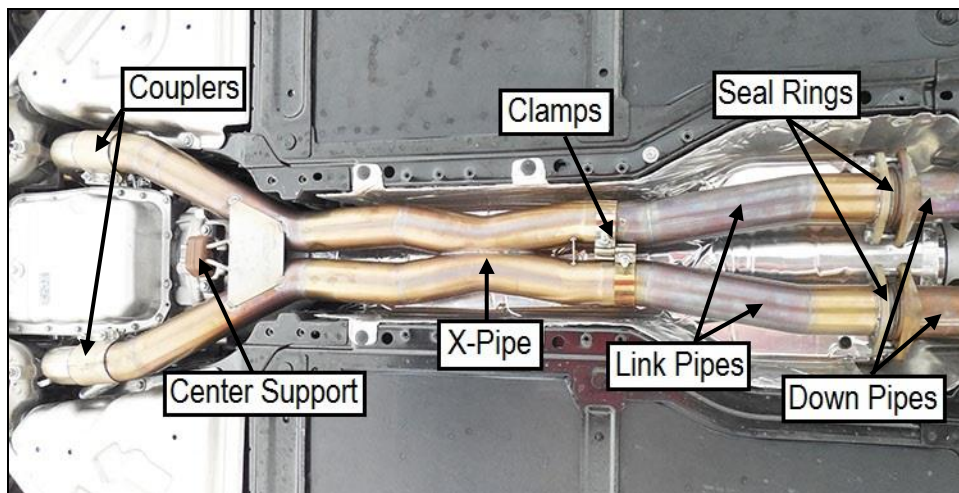

Figure 6
2. Install the 76mm band clamps onto each inlet pipe of the Blackheart X-pipe (expanded end with notches). The clamps need to be configured so the threaded stud of the clamp is positioned to align with the cut out in the lower skid plate (**Figure 6**).
3. Install the RIGHT link pipe (long link pipe) into the X-pipe's short expanded end (**Figure 6**). Tighten the clamp to allow for adjustment.
4. Install the LEFT link pipe (short link pipe) into the X-pipe's long expanded end (**Figure 6**). Tighten the clamp to allow for adjustment.
6. Install the X-pipe with link pipes onto the down pipes. Install the 10mm x 60mm bolts and flange nuts. Tighten the nuts to allow for adjustment. Support the X-pipe assembly. Install the center support hanger assembly and tighten the (x2) 13mm bolts (**Figure 6**). Adjust the position of the link pipes if necessary and tighten the (x4) nuts.
7. Install the 3" Torca couplers onto the outlet of the X-pipe with the bolts towards the transmission and the nuts facing down (**Figure 6**).